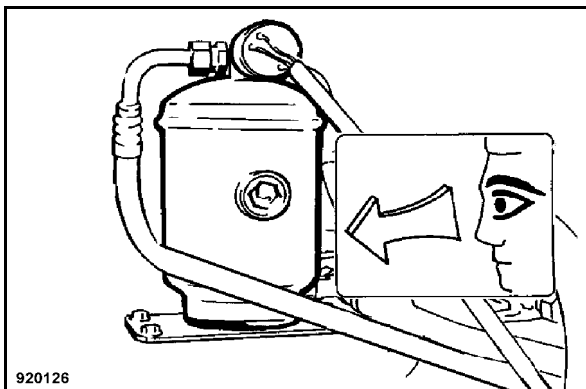

Fig. 150
- Check the drier/collector unit (Fig. 150) for mechanical damage or rust.